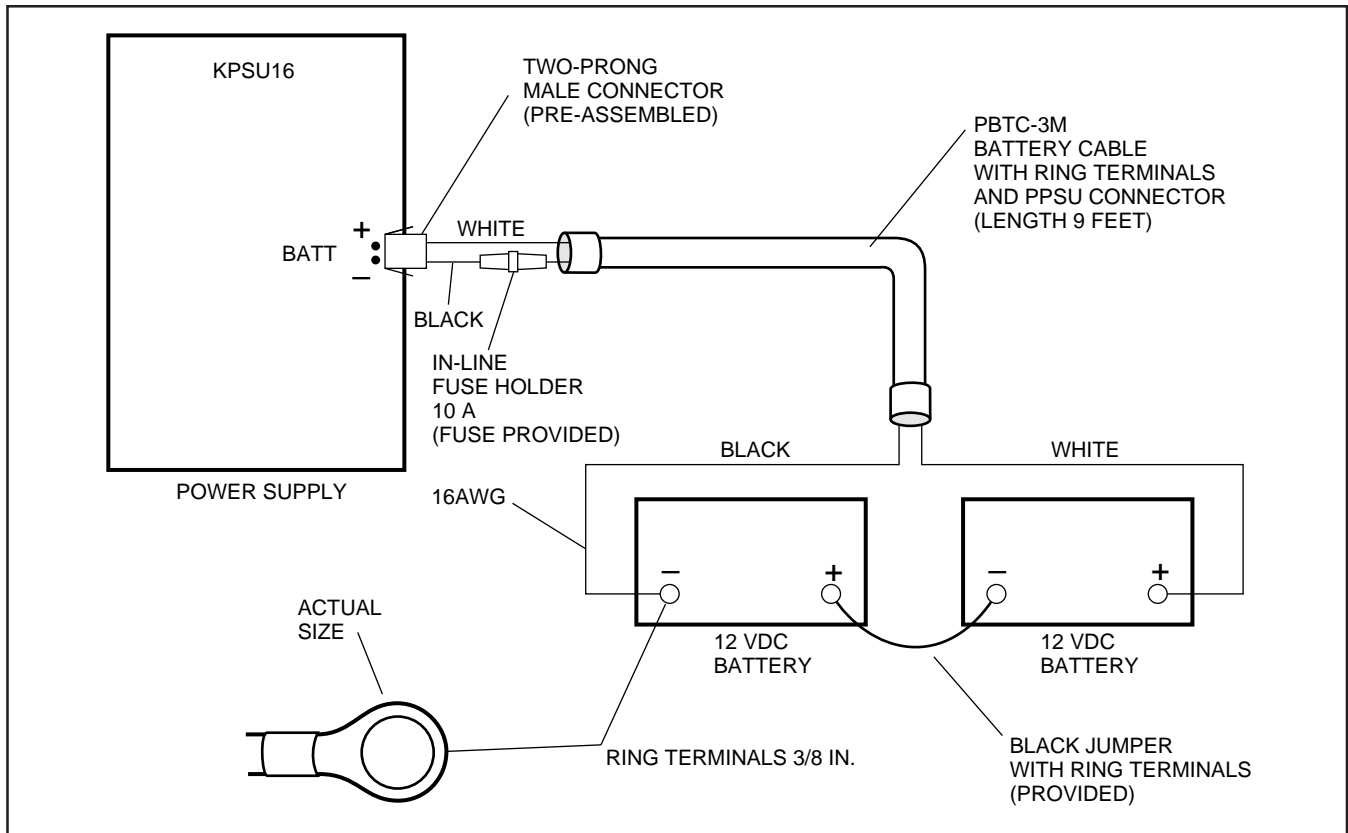

FIGURE 5-9
2.42 Reserve Power Option STRATADK16 system power supply provides the capability of connecting a reserve power source (two customer supplied 12-volt batteries) to ensure uninterrupted system operation in the event of a power failure. A pre-assembled interface cable for installation of the Reserve Power option is available from Toshiba (PBTC-3M), refer to Figure 5-9.
2.44 Reserve Power Installation. Install the Reserve Power option in accordance with the following steps (refer to Figure 5-9):
- 2) Set the power supply in its proper place in the Base Key Service Unit (see Figure 5-9).